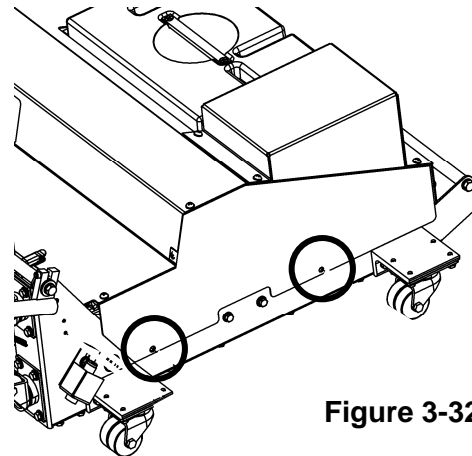

Figure 3-32
1. Remove the screws on each side of the hood, as shown in Figure 3-32, and lift the hood off the frame. Set aside the screws.